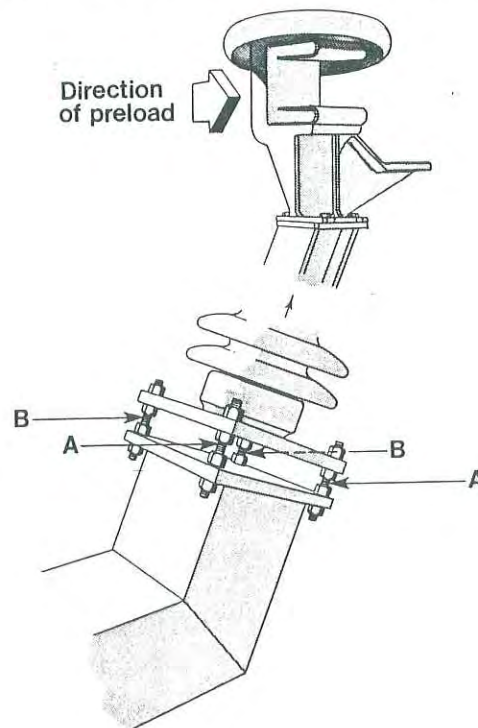

Figure 12
- E. After the above contact engagement adjustments are completed, refer to figure 12 and shorten both jack screws "A" by four flats, and lengthen both jack screws "B" by four flats on both jaw stacks. This procedure establishes proper preload against insulator deflection, and is essential for switch operation. Note the relationship of the parts in figure 12; the jaws must be loaded toward the blade.